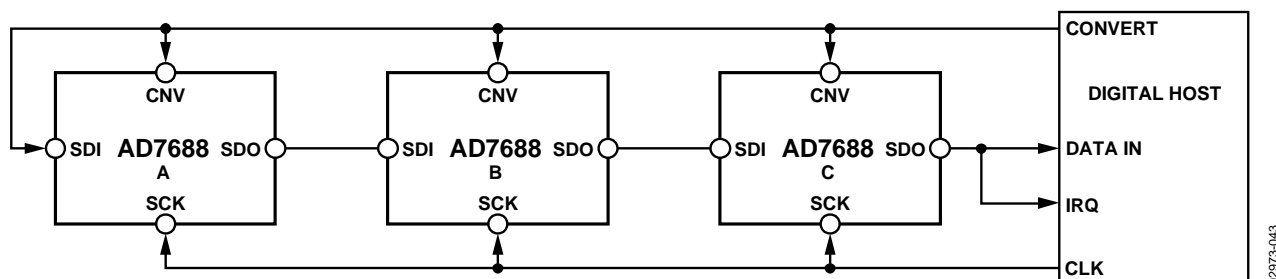
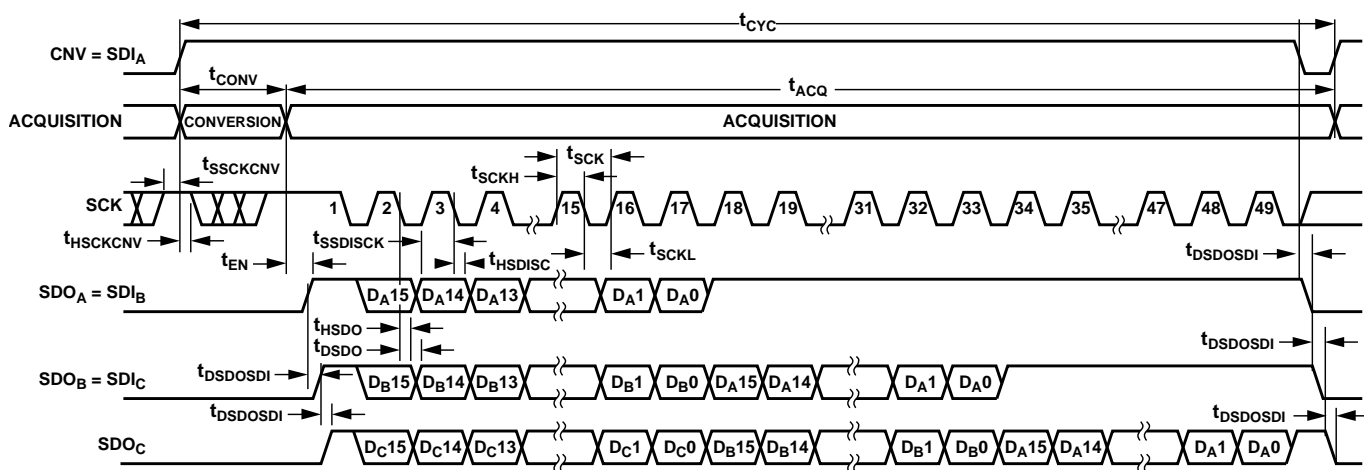

Figure 44. Chain Mode with BUSY Indicator Connection Diagram
Figure 45. Chain Mode with BUSY Indicator Serial Interface Timing
- In the chain mode, if SCK is high during the CNV rising edge (Figure 45).
A connection diagram example using three AD7688s is shown in Figure 44 and the corresponding timing is given in Figure 45.
Figure 44) SDO is driven high. This transition on SDO can be used as a BUSY indicator to trigger the data readback controlled by the digital host. The AD7688 then enters the acquisition phase and powers down. The data bits stored in the internal shift register are then clocked out, MSB first, by subsequent SCK falling edges. For each ADC, SDI feeds the input of the internal shift register and is clocked by the SCK falling edge. Each ADC in the chain outputs its data MSB first, and $16 \times N + 1$ clocks are required to readback the N ADCs. Although the rising edge can be used to capture the data, a digital host using the SCK falling edge allows a faster reading rate and consequently more AD7688s in the chain, provided the digital host has an acceptable hold time. For instance, with a 3 ns digital host setup time and 3 V interface, up to four AD7688s running at a conversion rate of 360 kSPS can be daisy-chained to a single 3-wire port.